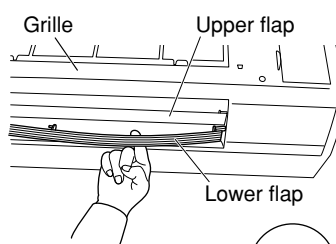

Fig. 17b
- (5) Remove the lower flap by disengaging 4 pins of the lower flap in order. (Figs. 17b and 17c)